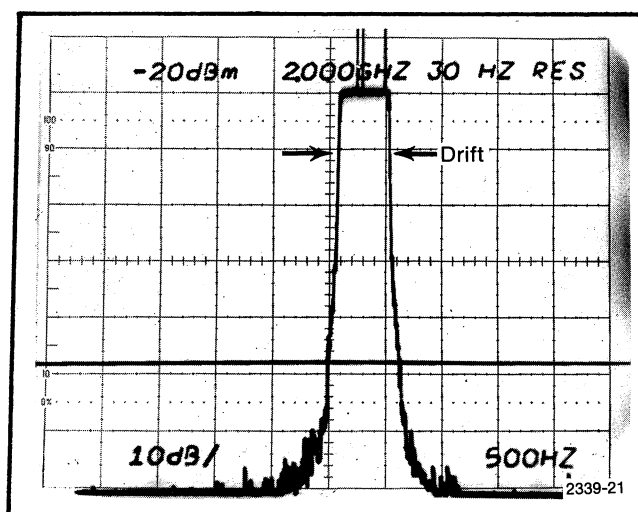

Fig. 3-6. Measuring stability using MAX HOLD feature of 7L18.
d. CHECK—stability or drift as the width of the response (see Fig. 3-6) over the specified time period. Drift must not exceed 2 kHz.